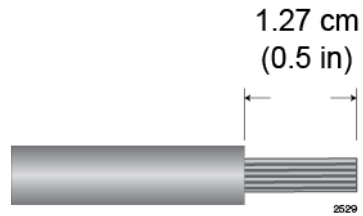

Figure 107. Stripping the Power Wires
1. Prepare adequate lengths of two stranded 8 AWG power wires by stripping them as shown in Figure 107 on page 169.